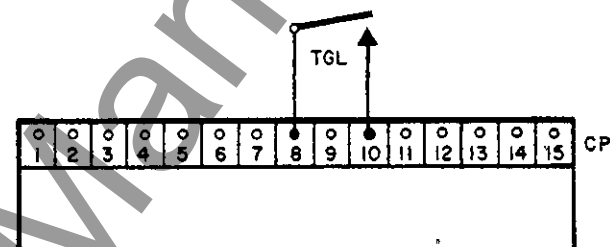

Figure 14. Optional Accessory 6B
**Acc. 6B** Reset switch to manually bypass time delay on retransfer to the normal source. See Figure 14.